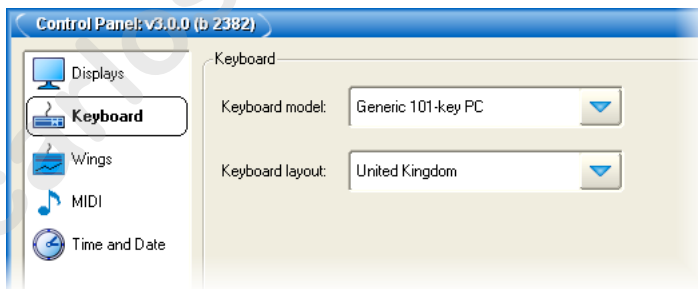

Figure 6.6. The Keyboard Pane of the Control Panel
2. Choose a keyboard model and layout in the Keyboard pane; see *Figure 6.6, “The Keyboard Pane of the Control Panel”*.